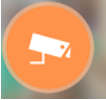

Figure 4-19
Besides startup wizard and configuration wizard, from main menu->Setting->Network->P2P, you can also go to the P2P interface. See Figure 4-19.
3. Tap Device manager button, you can use several modes (P2P/DDNS/IP and etc.) to add the device. Click  to save current setup. Tap Start Live preview to view all-channel video from the connected device. See Figure 4-19.